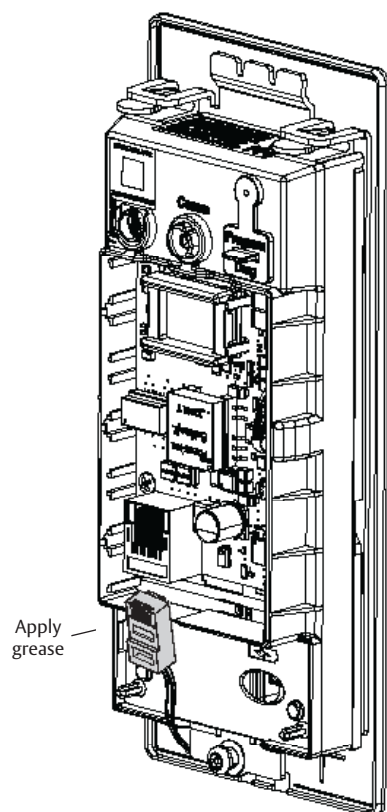

Figure 11-5A
**IMPORTANT:** Before inserting PoE plug into PoE connector, apply dielectric grease to top of plug, covering the pin area (Figure 11-5A).
1. Once controller is securely in place, connect RJ45 male connector to female RJ45 port on controller board (Figure 11-5A).